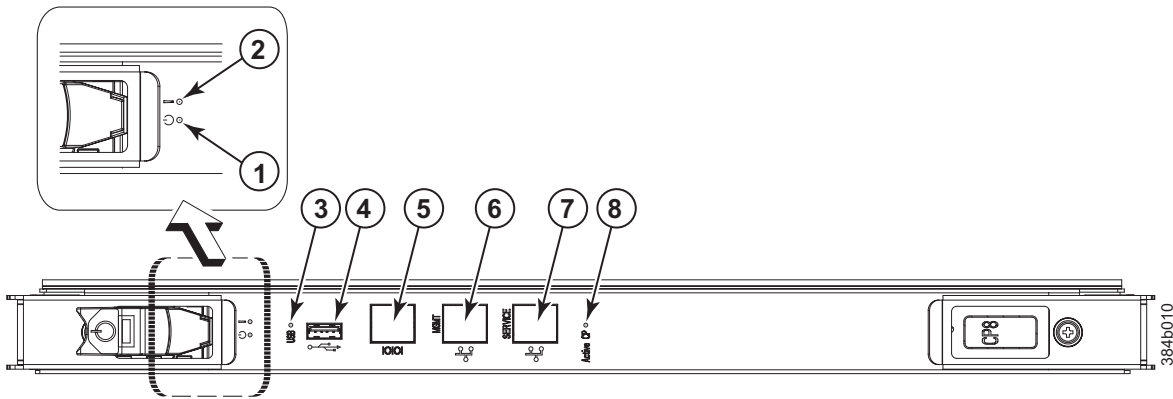

Figure 26. Control processor blade (CP8) ports and LEDs
1. Check the LED indicators on the CP blade (see Figure 26 on page 60). The LED patterns may temporarily change during POST and other diagnostic tests. For information about how to interpret the LED patterns, see Table 9 on page 60.
Figure 26 shows the control processor blade (CP8) and component parts.